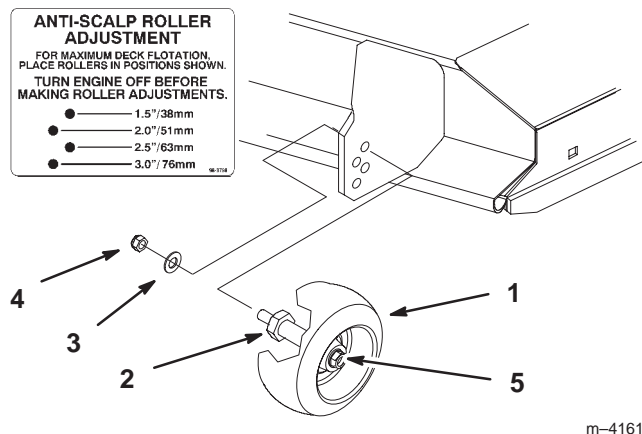

Figure 22
2. After adjusting height-of-cut remove flange nut and spring disk while holding stud with wrench (Fig. 22).
Note: Do not remove the wheel nut and washer (Fig. 22).
3. Select hole so gage wheel is positioned to the nearest corresponding height-of-cut desired (Fig. 22).
4. Reinstall the flange nut and spring disk. Torque to 40–45 ft-lbs. (54–61 N•m) (Fig. 22).